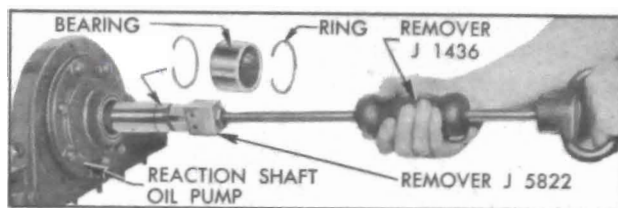

Figure 5-60—Removing Input Shaft Bearing
2. Inspect the input shaft bearing in front end of reaction shaft. If bearing is damaged or excessively worn, remove outer retaining ring and then remove the bearing, using Remover J 5822 installed on Remover J 1436. See figure 5-60. Oil pump must be in place to support the reaction flange during bearing removal.